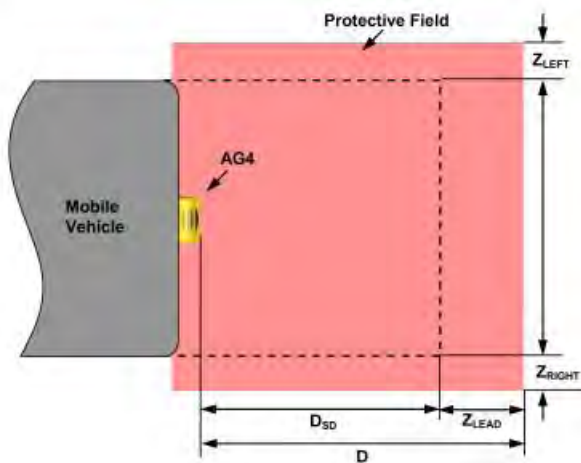

Figure 3-13. Calculating minimum distance in a mobile vehicle application
The width of the Protective Field is determined by the width of the mobile vehicle and the Additional Distance Factors (Z) as described above (also see Figure 3.13 Z_{LEFT} and Z_{RIGHT}). The distance Z may be different for the two sides and the leading edge. The width of the Protective Field must be greater than the width of the mobile vehicle.